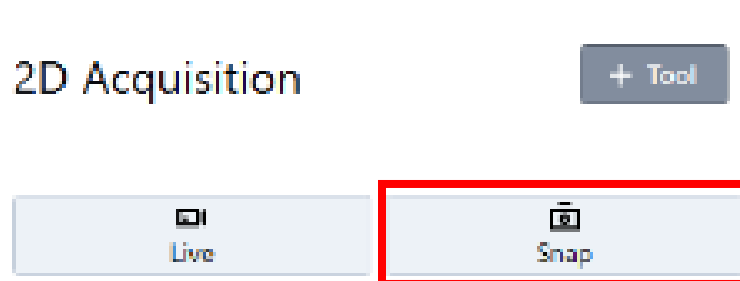
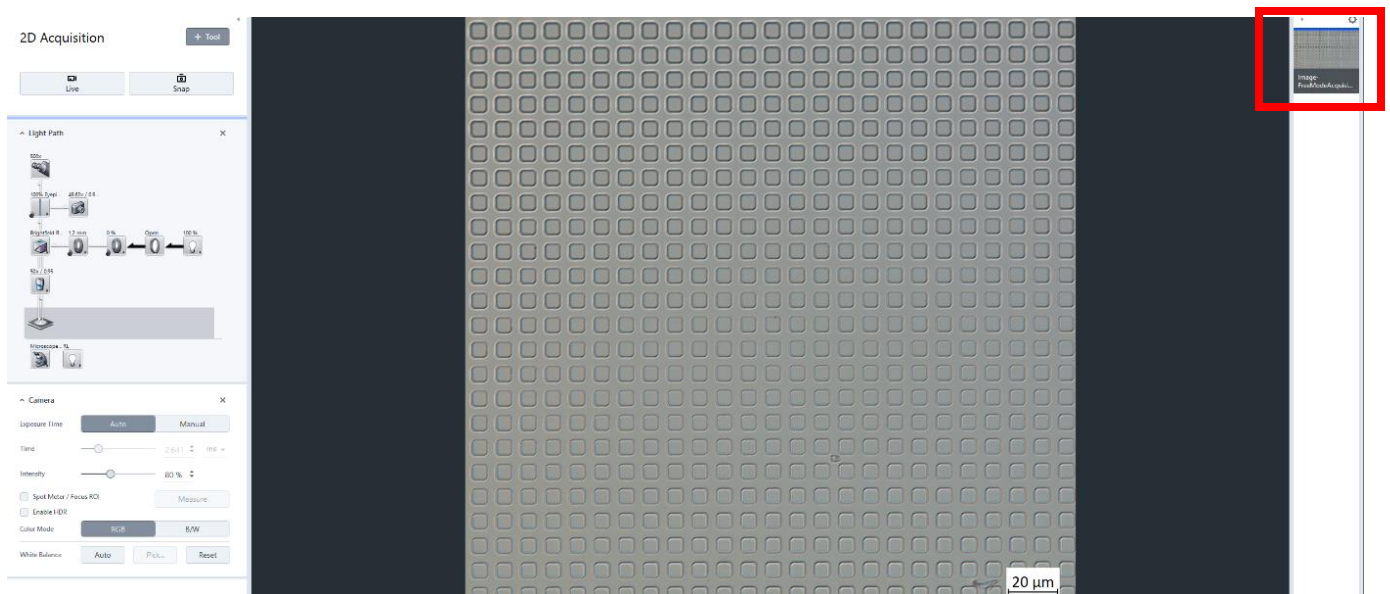

Figure 16. Capturing an Image by Selecting "Snap"
Figure 17. Captured Image
14. Once all adjustments are complete, capture the image by selecting "Snap" in the software, as shown in Figure 16. After the image is captured, it will appear on the right side of the software interface, as shown in Figure 17, where you can save it by clicking on the image.